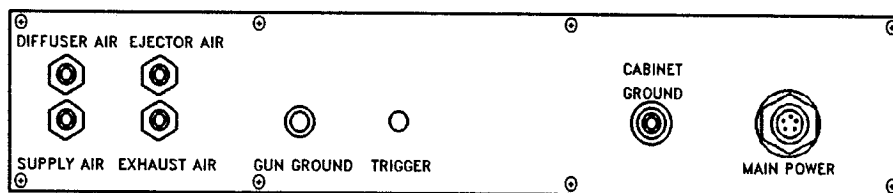

Figure 3 — Rear View Of 19" Control Module
4. Connect air tubing included in kit to quick disconnect marked "Diffuser" (refer to Figure 3) and to Hand Gun Diffuser air fitting.